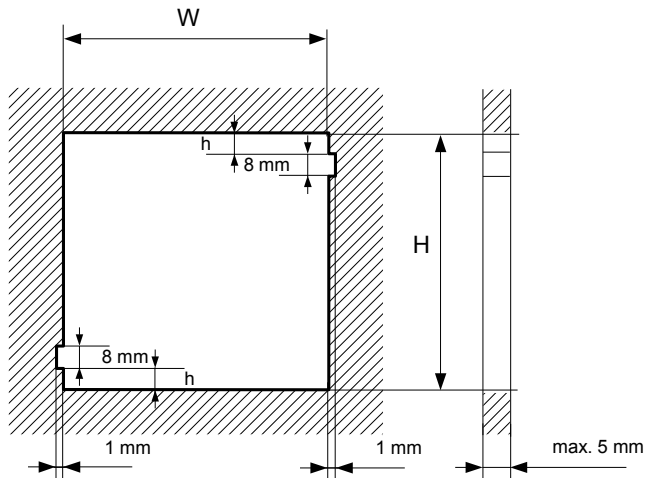
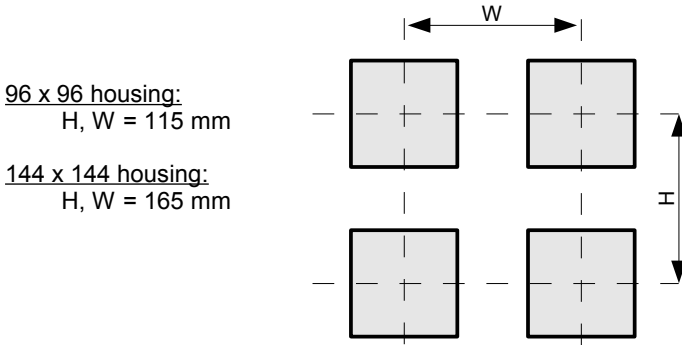
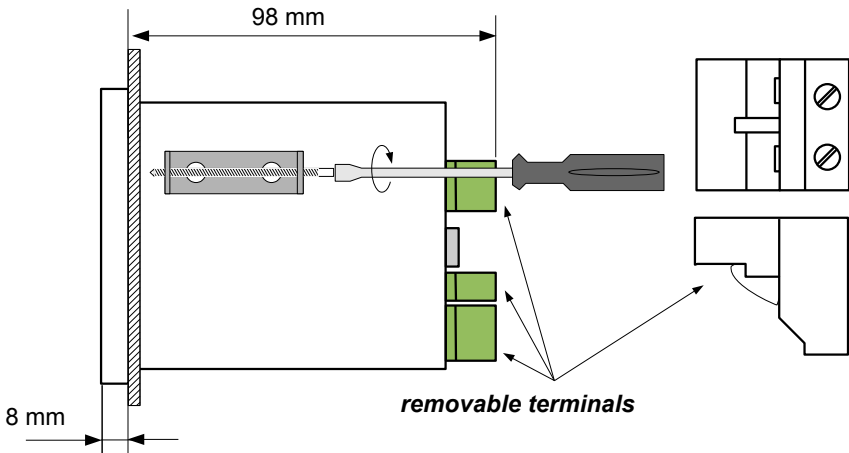

Fig. 4.2. Mounting hole dimensions
Fig. 4.3. Minimum distances to assemble a number of units
Fig. 4.4. Brackets installation
- In order to install the unit, a mounting hole must be prepared in accordance with **Fig. 4.2**. The thickness of the material the panel is made of must not exceed 5mm. While preparing the mounting hole take the grooves for catches located on both sides of the housing into consideration (**Fig. 4.2**). Place the unit in the mounting hole inserting it from the front side of the panel, and then fix it using the brackets (**Fig. 4.4**). The minimum distances between the centre points of multiple units - are shown in **Fig. 4.3**.